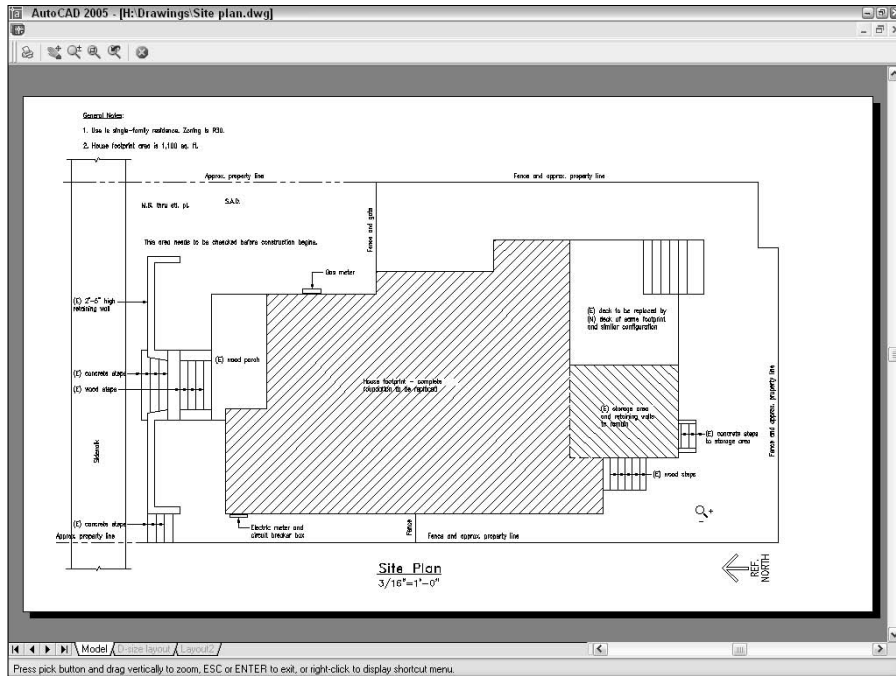

Figure 12-4:
14. Click the Preview button and check that the drawing displays on the paper at the correct orientation and size, as shown in Figure 12-4; then, right-click and choose Exit to return to the Plot dialog box.